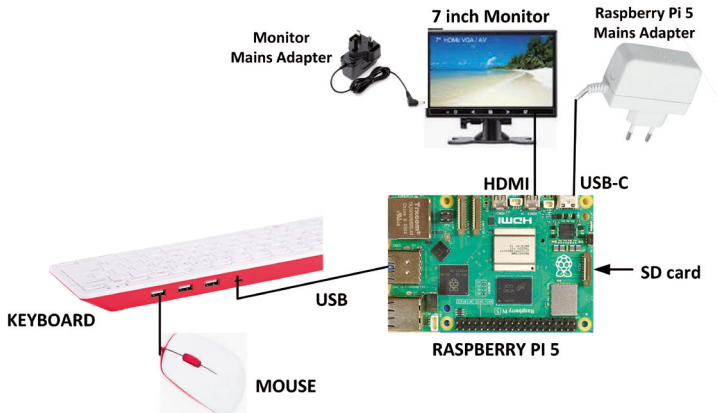

Figure 1.3: The authors' hardware setup.
The pre-installed Raspberry Pi 5 operating system is available in various size micro SD cards. The author used the pre-installed 32 GB micro SD card supplied by Elektor. Additionally, the author used a 7-inch HDMI compatible monitor, a Raspberry Pi official keyboard, and a mouse. The author's hardware setup between the Raspberry Pi 5 and various devices is shown in Figure 1.3.
- Connect all the devices as in Figure 1.3.